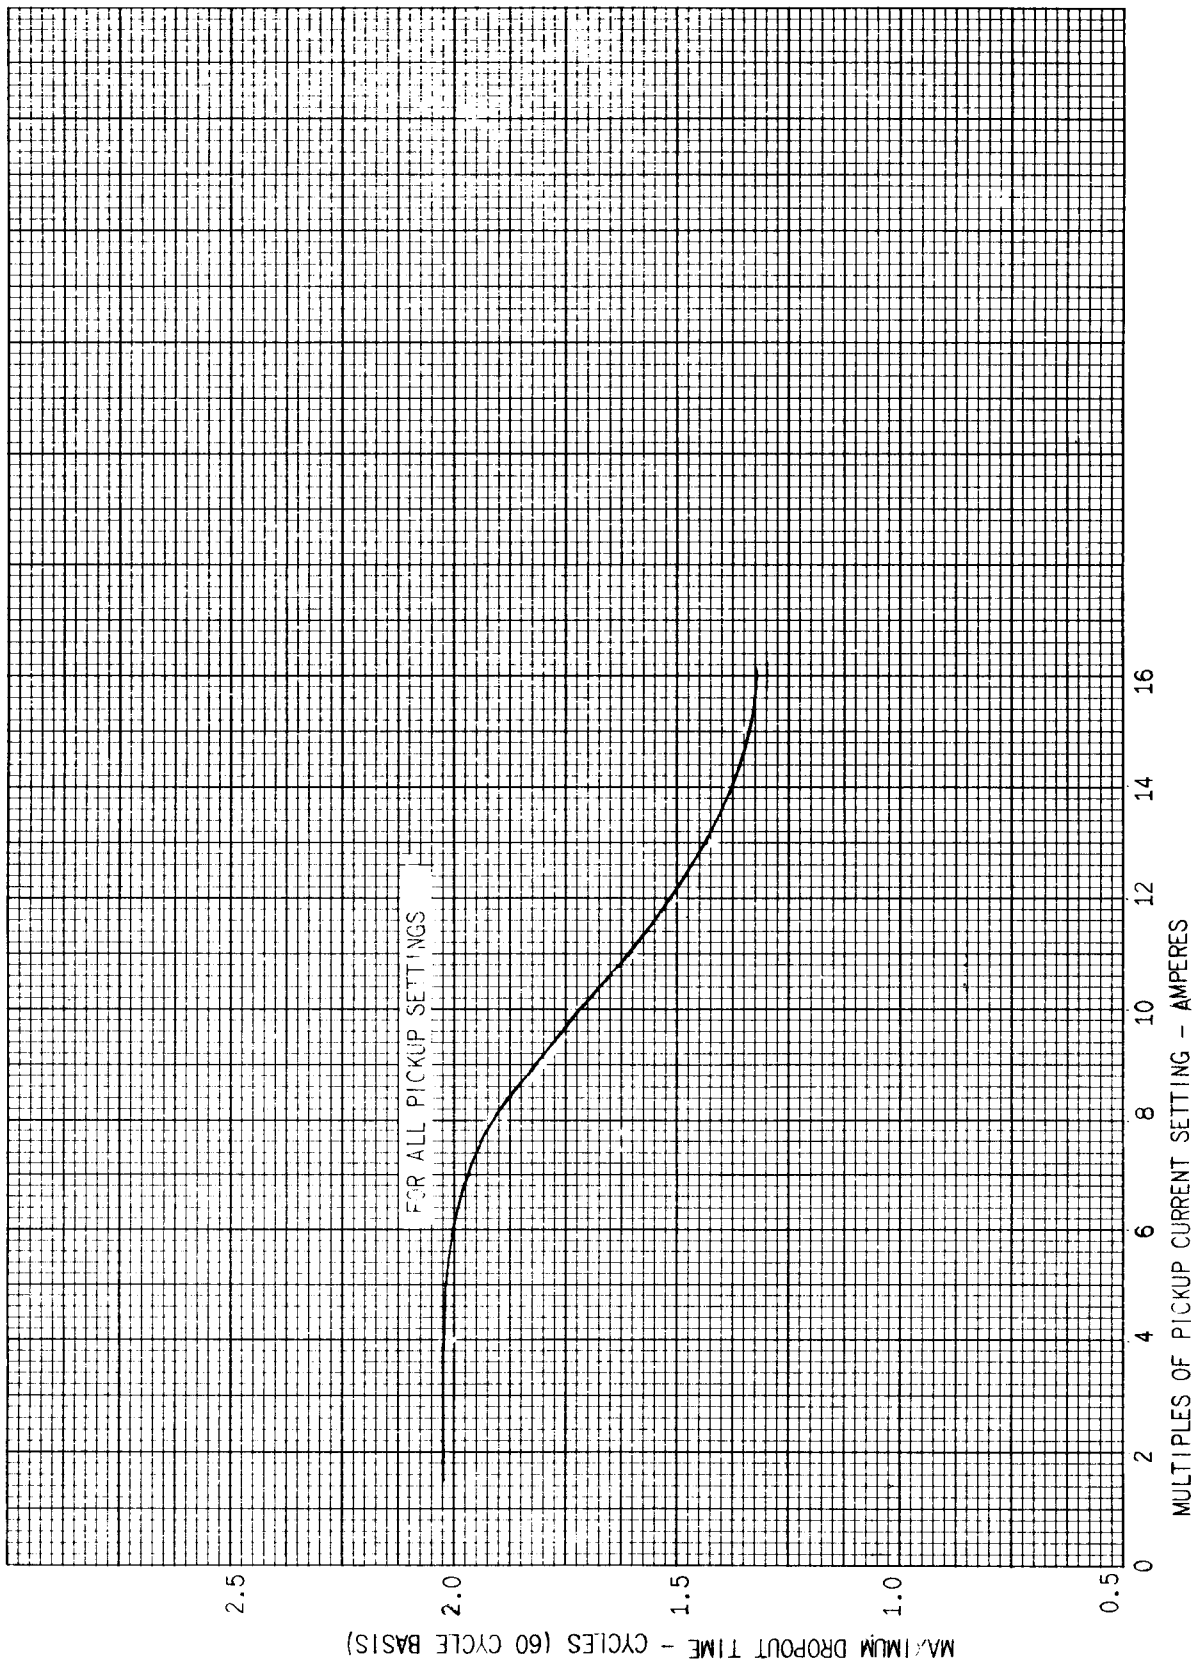

Figure 4 (0127A9438 Sh.3) Maximum Dropout-Time Curve for Cup (PFD) Unit Plus Telephone Unit (A) of CHC11A Relay
- Figure 4 (0127A9438 Sh.3) Maximum Dropout-Time Curve for Cup (PFD) Unit Plus Telephone Unit (A) of CHC11A Relay